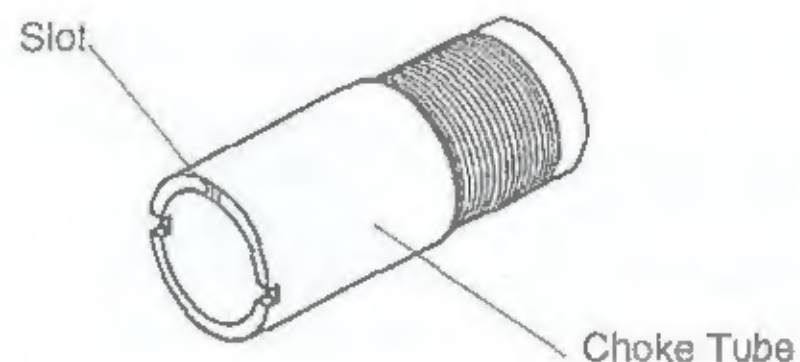

Fig. 14
8.1 INTERCHANGEABLE CHOKES (see Fig. 14)